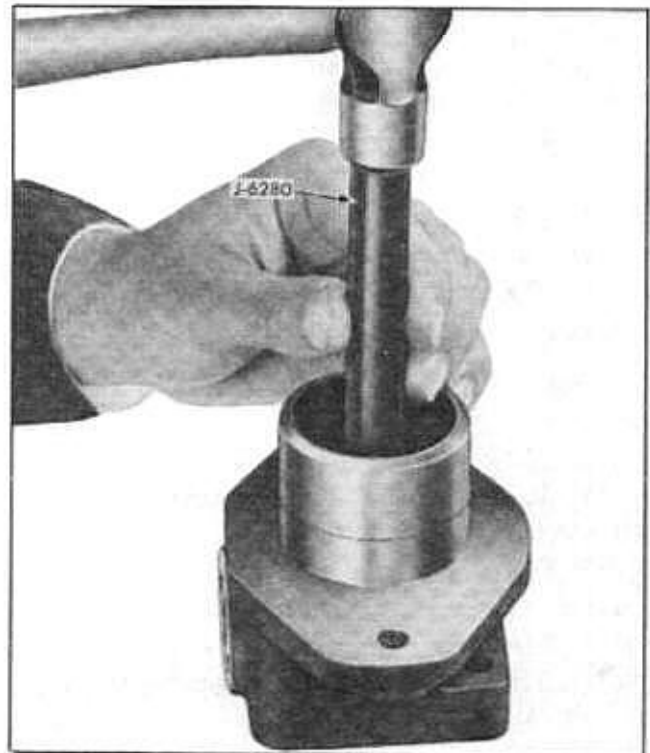

Fig. 9-82 Driving Needle Bearing Into Pump Body
3. Install needle bearing into pump body with the stamped face toward the front of pump using tool J-6280 (Fig. 9-82). **NOTE:** Be sure needles are free to roll after installation.